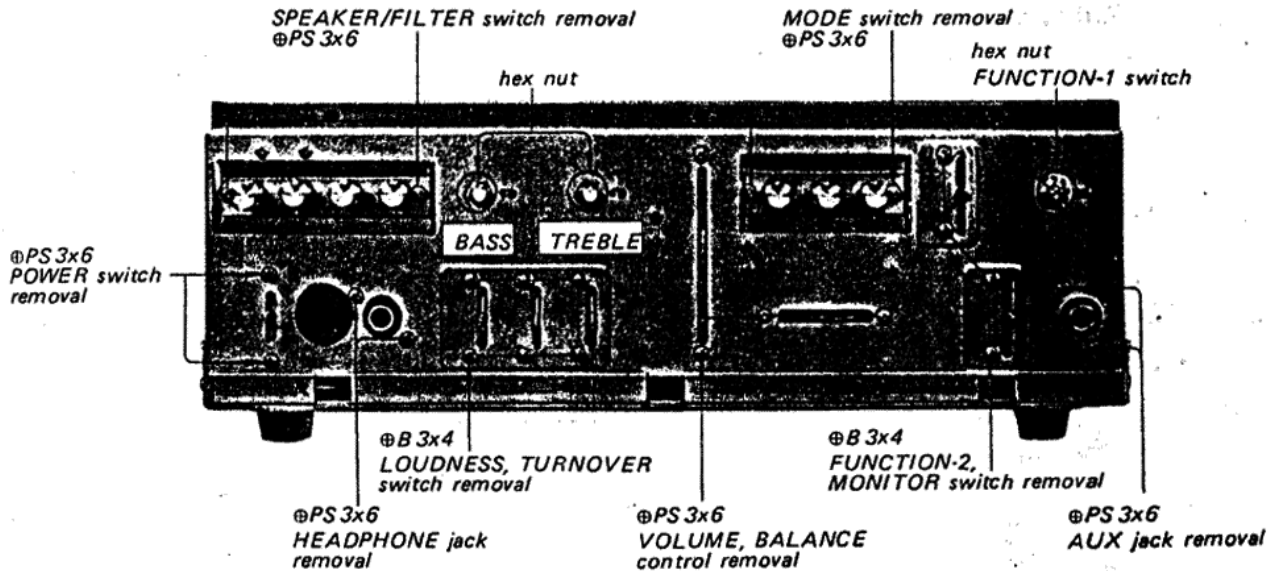

Fig. 2-5. Control and switch replacement
1. Remove the two screws securing switches to the front subchassis as shown in Fig. 2-5.
1. Remove the hex nuts that secure BASS and TREBLE controls to the front subchassis as shown in Fig. 2-5.
1. Remove the hex nut that secures FUNCTION-1 switch to the front subchassis as shown in Fig. 2-5.
2. Remove the two screws (⊕ PS 3×6) securing the combination switch to the front subchassis as shown in Fig. 2-5.
1. Remove the two screws (⊕ PS 3×6) securing the control to the front subchassis as shown in Fig. 2-5.
1. Remove the two screws (⊕ PS 3×6) securing the control or jack escutcheon to the front subchassis as shown in Fig. 2-5.